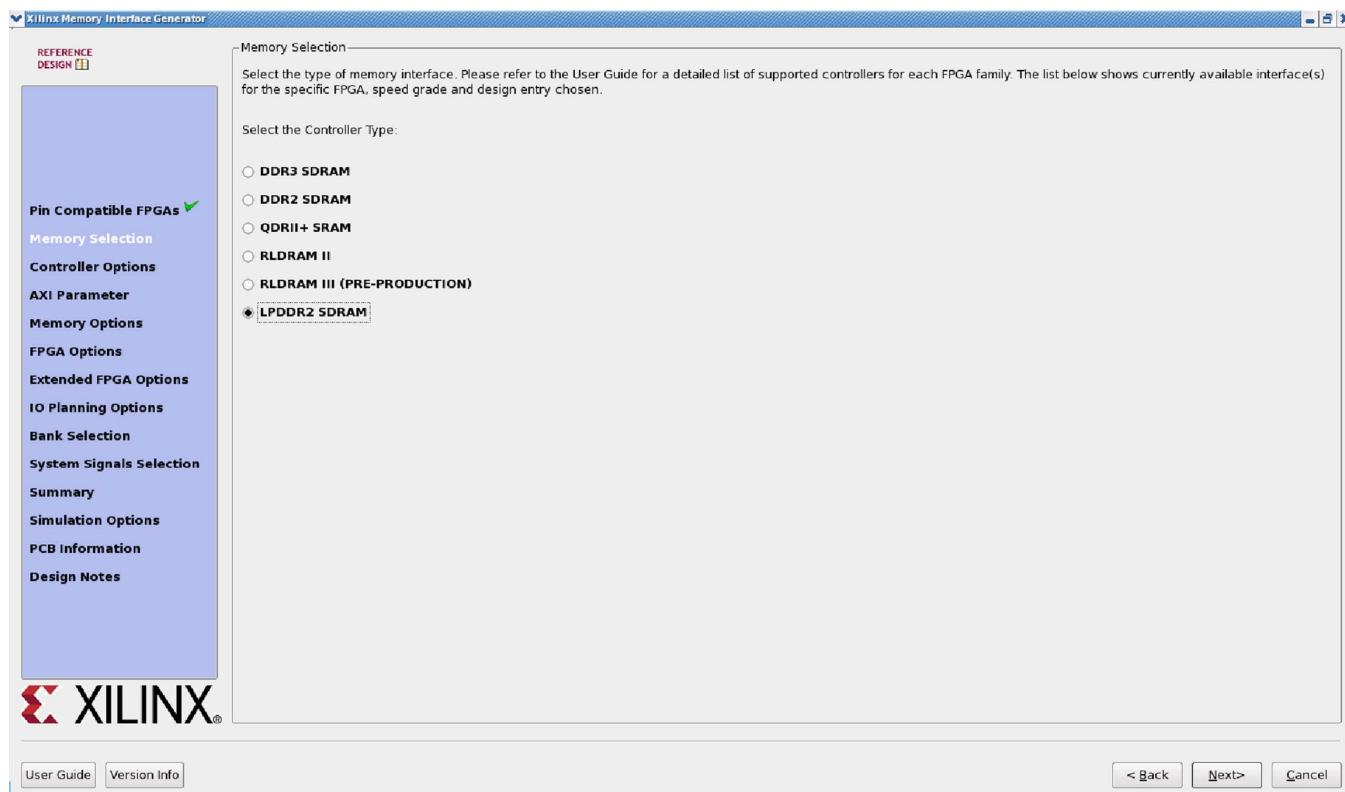

Figure 4-4: Memory Type and Controller Selection
2. Click **Next** to display the **Controller Options** page (Figure 4-4).